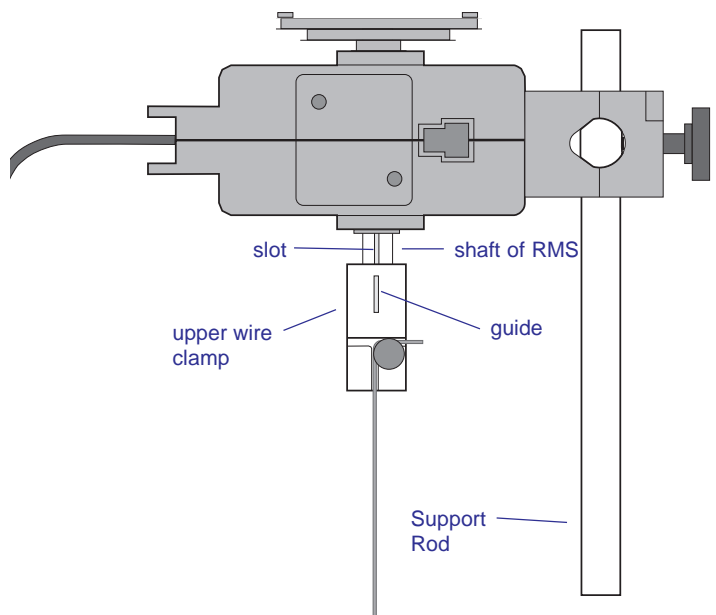

Figure 5
- Adjust height of the lower wire clamp as necessary to position to top of the upper wire clamp approximately half-way up the shaft (Figure 5).